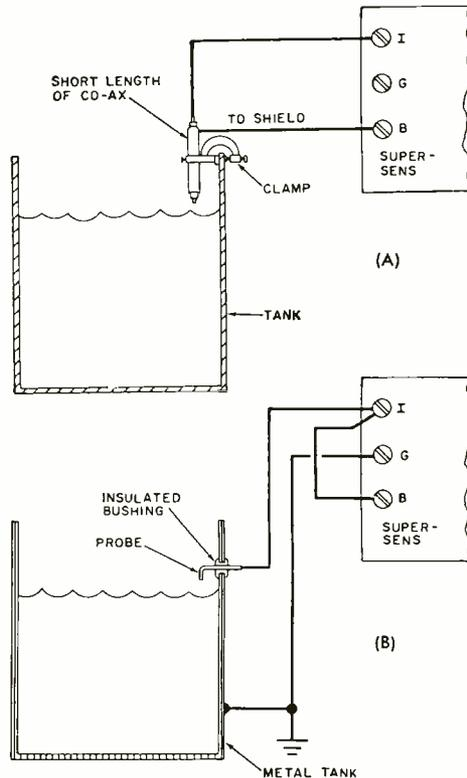

Fig. 7. Levels of low- and high-conductive liquids can be monitored by easily made probes.
Liquid Level Control. Farmers, chemical engineers, food processors, electroplaters, beverage manufacturers, industrial plant operators and others need to check or maintain liquid levels in large tanks or vats from time to time. *Super-Sens* can do an excellent job in such applications when used with suitable sensor probes. Typical techniques are shown in Fig. 7.
A short length of rigid coaxial cable can be used as a simple liquid sensor probe if clamped to the side of a tank. If the cable's shield is connected to the instrument's B terminal and the center conductor to the I terminal, the relay will close when the liquid reaches the exposed lower end of the cable. Connections are as shown in Fig. 7 (A).
Rain Alarm. A standard moisture sensor plate will make *Super-Sens* serve as a rain alarm. The sensor plate leads are connected as shown in Fig. 8 (A) and operate in the same way as the level control in Fig. 7 (B). Just a drop or two of rain on the sensor plate is enough to cause the relay to open.
Humidity Control. A modification of the "rain alarm" circuit is shown in Fig. 8 (B). Here, the moisture sensor plate is connected and operated in the same manner as the circuit shown in Fig. 7 (A). With this arrangement, *Super-Sens*' high sensitivity will respond to the slightest trace of moisture and close the relay. It can detect the small amount of moisture condensed from a person's breath and can be used, among other applications, for controlling a dehumidifier.